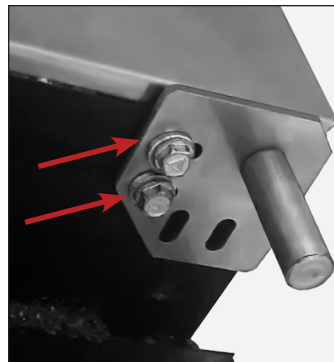

Fig. 9. Do not forget the washers.
4. With a 1/4" socket, move the top hinge to the opposite side of the appliance. See fig. 9.